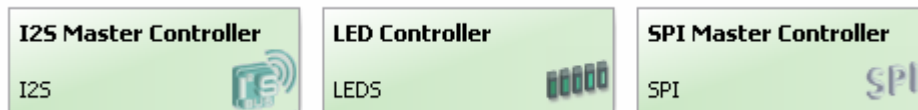

Figure 16. First add the wrappers.
39. In the Software Platform document, the **Import from FPGA** button will now be active, click this to instruct Altium Designer to examine the FPGA project and attach any required I/O wrappers. The low-level wrappers for the I2S Master Controller, the LED Controller and the SPI Master Controller will be added, as shown in Figure 16.